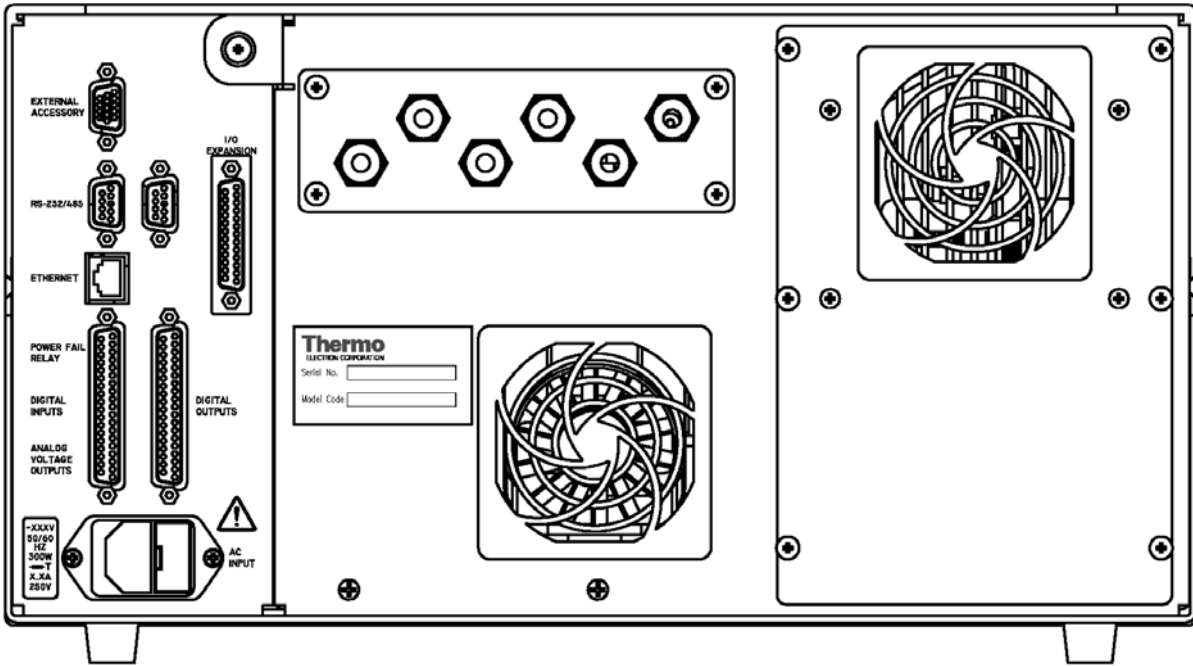

Figure 2-3. Model 42i Low Source Rear Panel
1. Connect the sample line to the SAMPLE bulkhead on the rear panel (Figure 2-3). Ensure that the sample line is not contaminated by dirty, wet, or incompatible materials. All tubing should be constructed of FEP Teflon®, 316 stainless steel, borosilicate glass, or similar tubing with an OD of 1/4-inch and a minimum ID of 1/8-inch. The length of the tubing should be less than 10 feet.